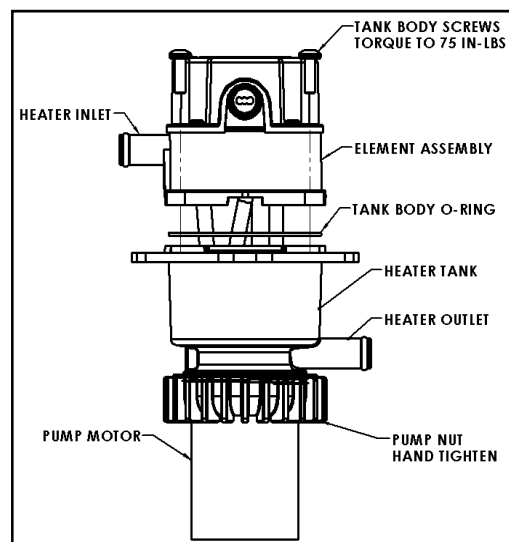

Figure 5
- Remove the four screws holding the electrical cover in place as shown in Figure 5.
WARNING O-ring Damage: Ensure the o-ring is properly seated in the groove to prevent leakage from the heater. See Figure 5.